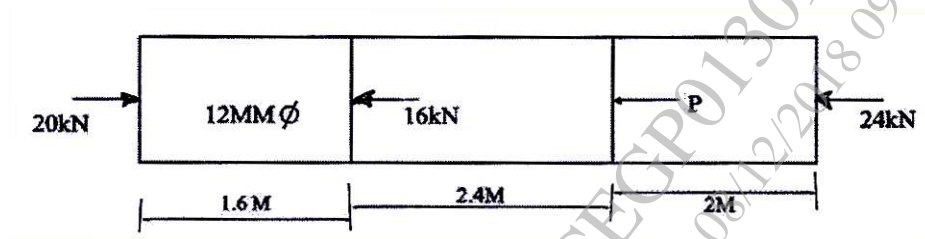

Fig. 1.1
1. (a) Determine load 'P' and total elongation of the bar. Refer Figure 1.1. Assume  $E = 200 \text{ GPa}$ . [6]